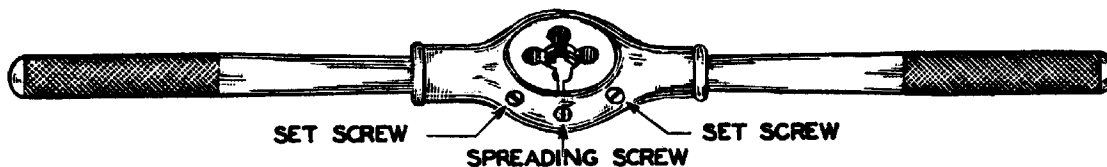

FIG.1 DIE HOLDER WITH A SPLIT DIE INSERTED
2. Insert die in holder with the slot in line with the spreading screw. (Fig. 1).